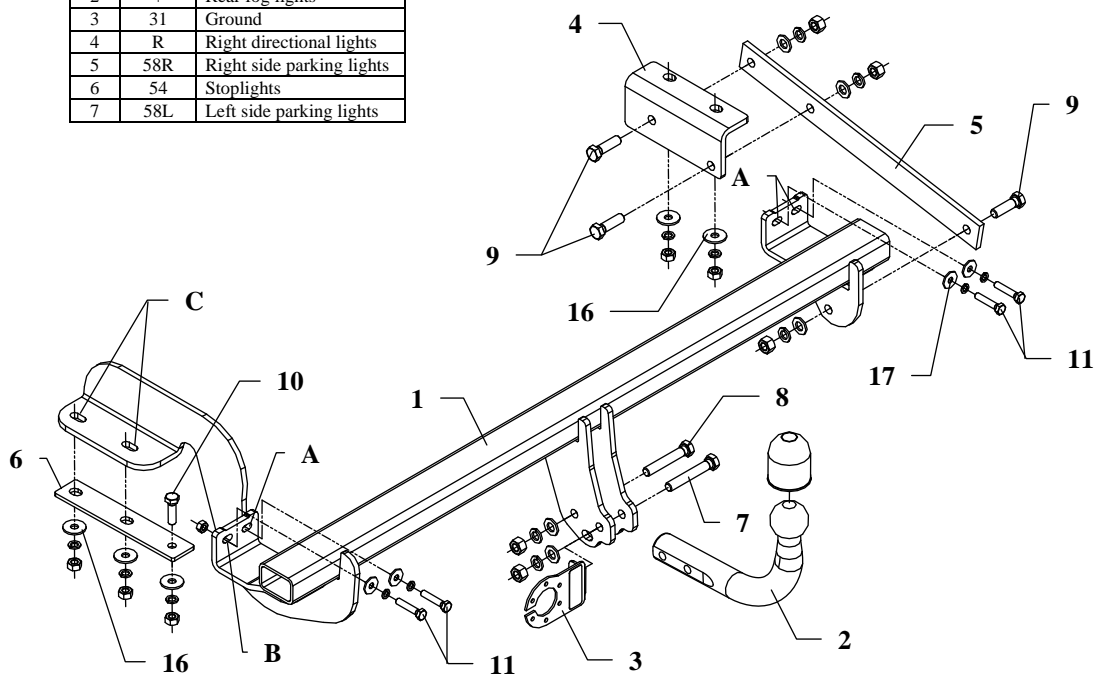

Fig. 1
2. In points A (see fig. 1) one ought to unscrew the original bolts.
5. Apply the main bar of the towing hitch (pos. 1) at points A, B and C.
6. Assembly elements of muffler fastenings with fish-plate (pos. 6).
7. Apply the angle bar (pos. 4) to the right chassis member.
8. Fix loosely flat bar (pos. 5) to the angle bar (pos. 4) and to the main bar of the towing hitch (pos. 1) using bolts M12x40mm (pos. 9).
9. Fix tow ball (pos. 2) using bolt M12x75mm (pos. 7) and M12x70mm (pos. 8). With bolt M12x75mm fix also a socket plate (pos. 3). See figure 1.